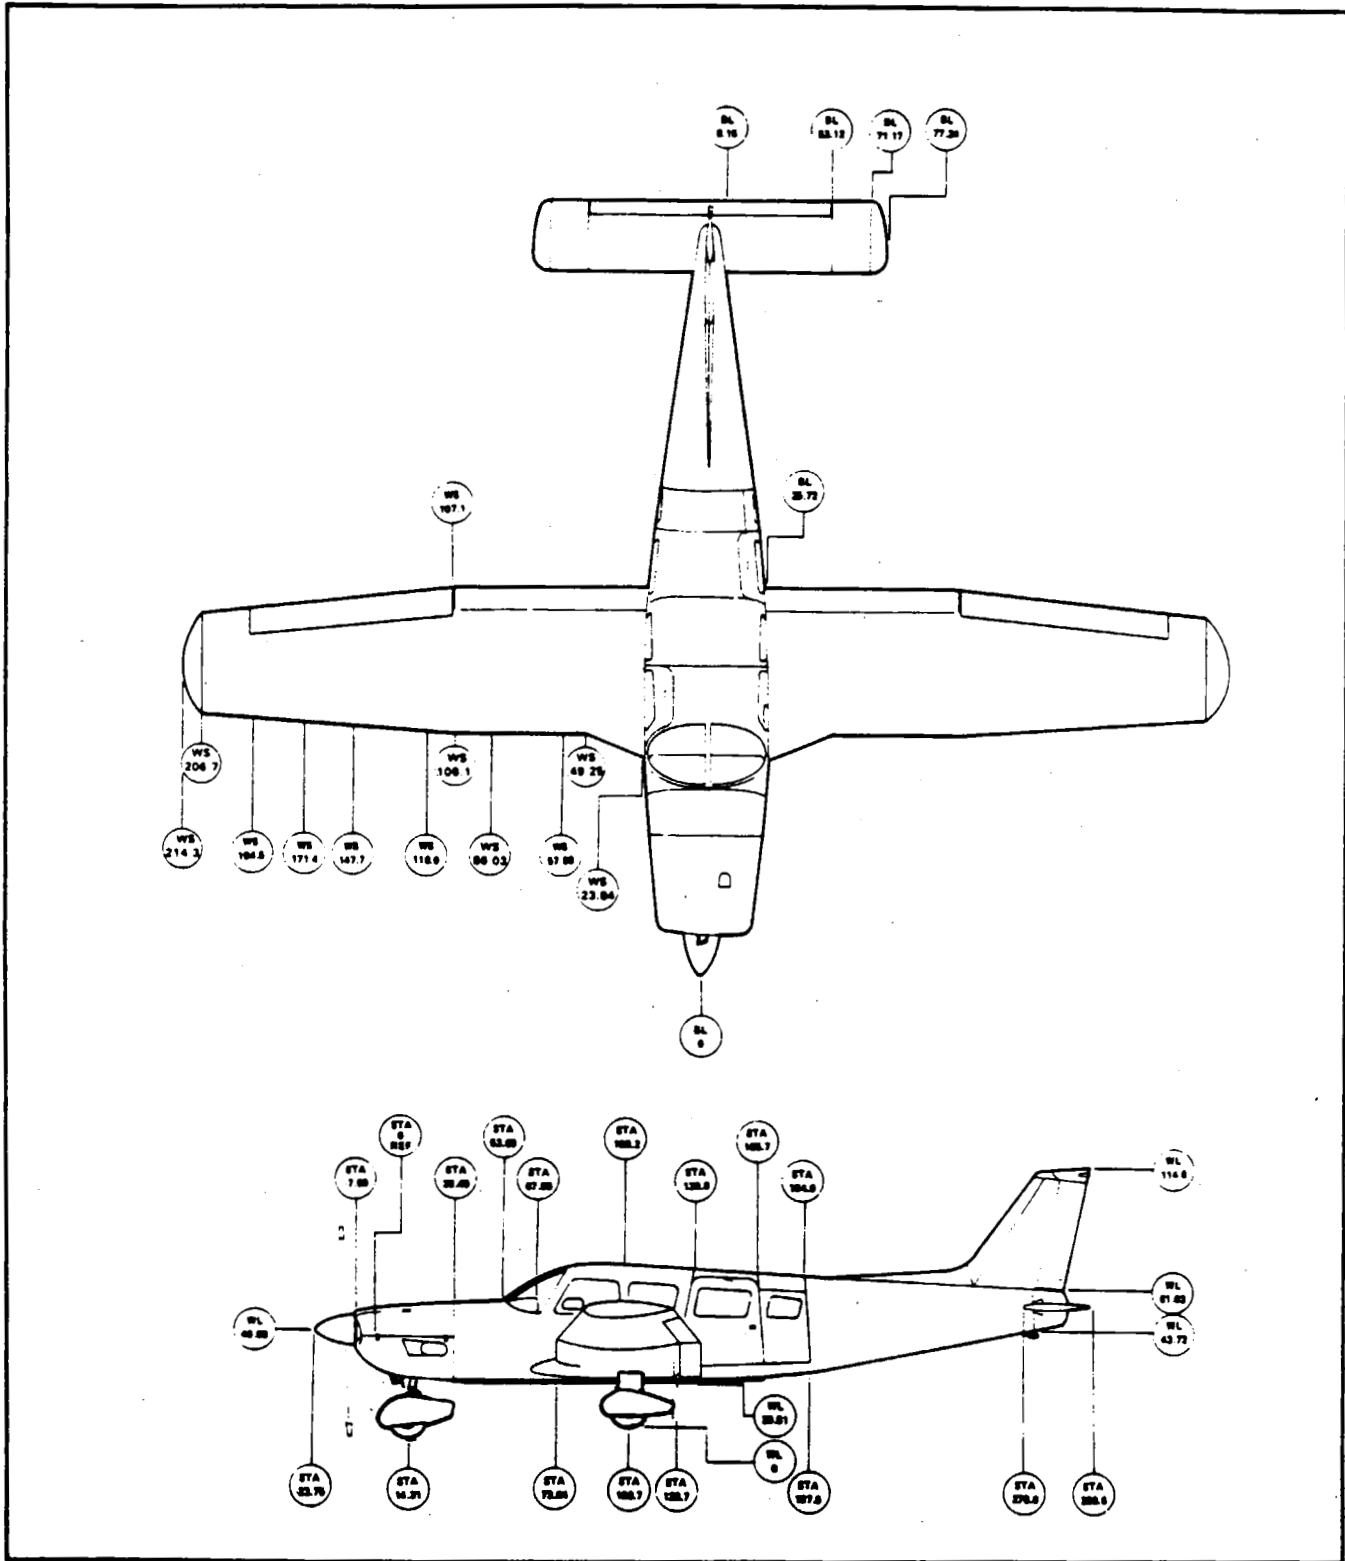

Figure 6-3. Station Reference Lines (PA-32-301)
In order to facilitate the location of various components of the airplane which require maintenance and servicing, a method utilizing fuselage station (Sta.), wing station or buttock line (BL), and water line (WL) designations is frequently employed in this manual. (Refer to Figure 6-3 or 6-4.) Fuselage stations, buttock lines, and water lines are reference points measured by inches in the vertical or horizontal direction from a given reference line which indicates station locations of structural members of the airplane. Station 0 of the fuselage is 78.4 inches ahead of the wing leading edge or 44.5 inches ahead of the lower edge of the firewall; station 0 (BL) of the wing and stabilator is the centerline of the airplane; and station 0 (WL) of the fuselage vertical stabilizer and rudder is 20.5 inches below the cabin floor as measured at the rear wing spar with the airplane level. The reference datum line is located 78.4 inches ahead of the wing leading edge at the intersection of the straight and tapered section.